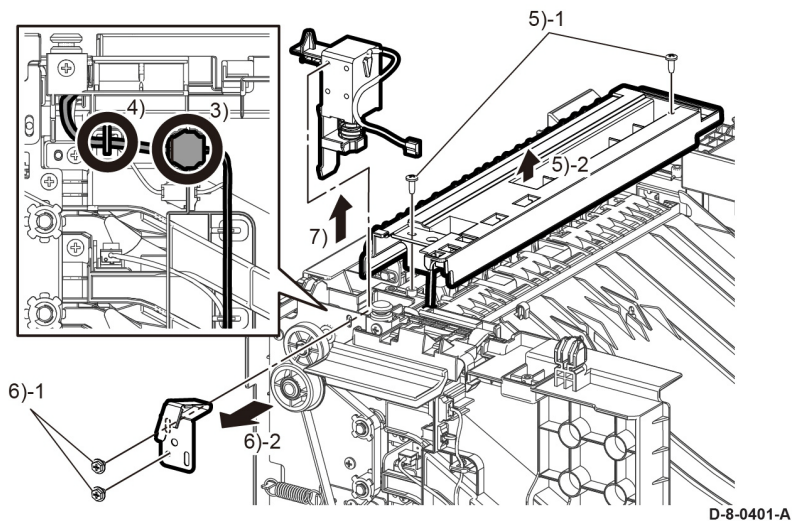

Figure 1 Gate solenoid removal
6. Remove the components that follow, Figure 1: